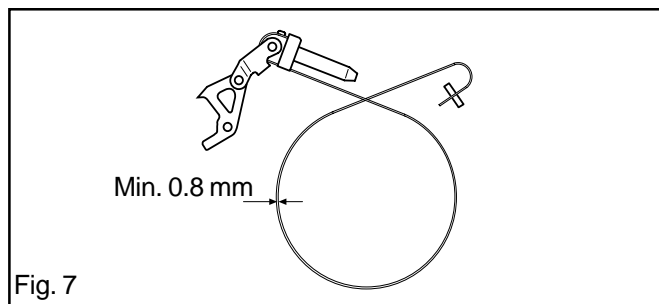

Fig. 7
The thickness of the brake strap must nowhere be less than 0.8 mm. See fig. 7.
1. Fit the toggle joint and brake strap. See fig. 7.